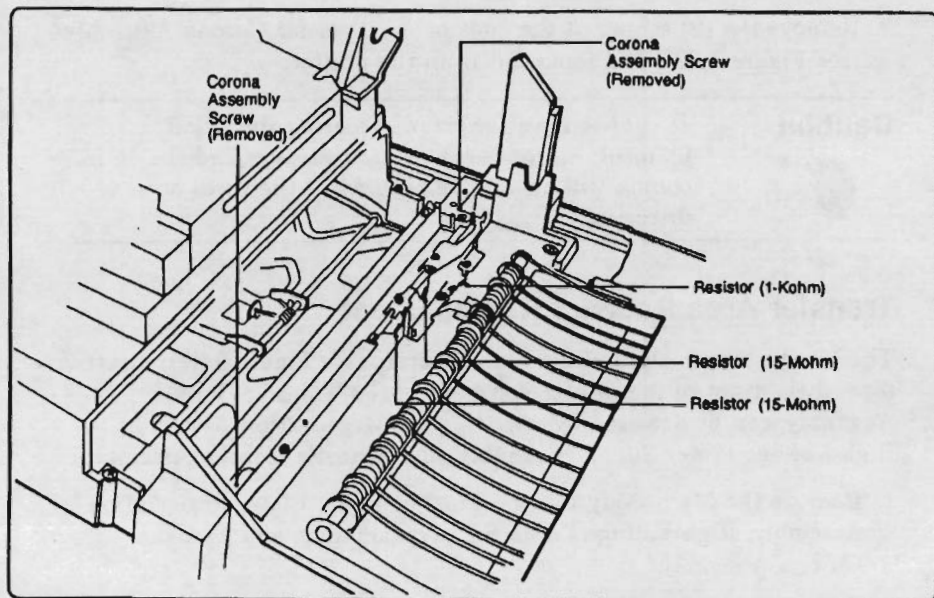

Figure 6-37. Transfer Corona Assembly and Resistor Locations
2. Remove the (2) screws at the ends of the Transfer Corona Assembly (see Figure 6-37), and remove it from the printer.
The two 15-Mohm and one 1-Kohm resistors (see Figure 6-37), located toward the front of the printer just beyond the Transfer Corona Assembly, can be accessed by removing the Registration Assembly, High-Voltage Power Supply Assembly, and Transfer Corona Assembly.